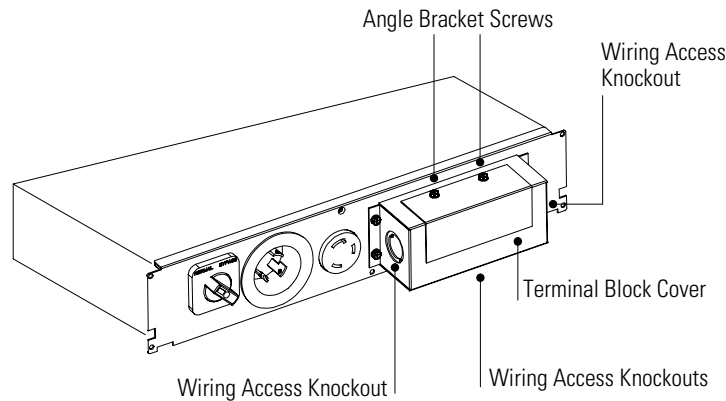

Figure 18. Wiring Access (PDM2-LV-US-HW Shown)
5. Remove the angle bracket from the terminal block cover (see Figure 18).